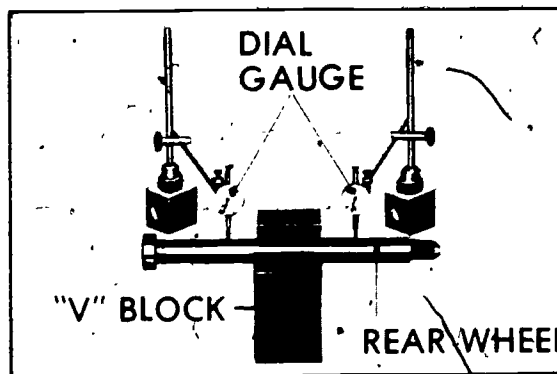

FIGURE 4
- G. Check the axle for bend by using the "V" blocks and dial indicator (Figure 4)